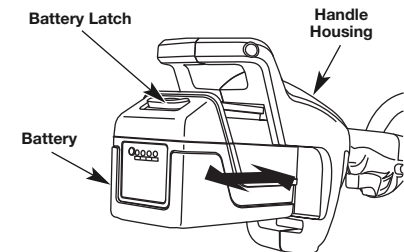

Fig. 10
1. Align the tongue of the battery with the handle cavity (Fig. 10).
1. Press the latch button on the battery down and hold (Fig. 10).
1. Fit the battery into the handle cavity (Fig. 10). Refer to *Installing the Battery*.